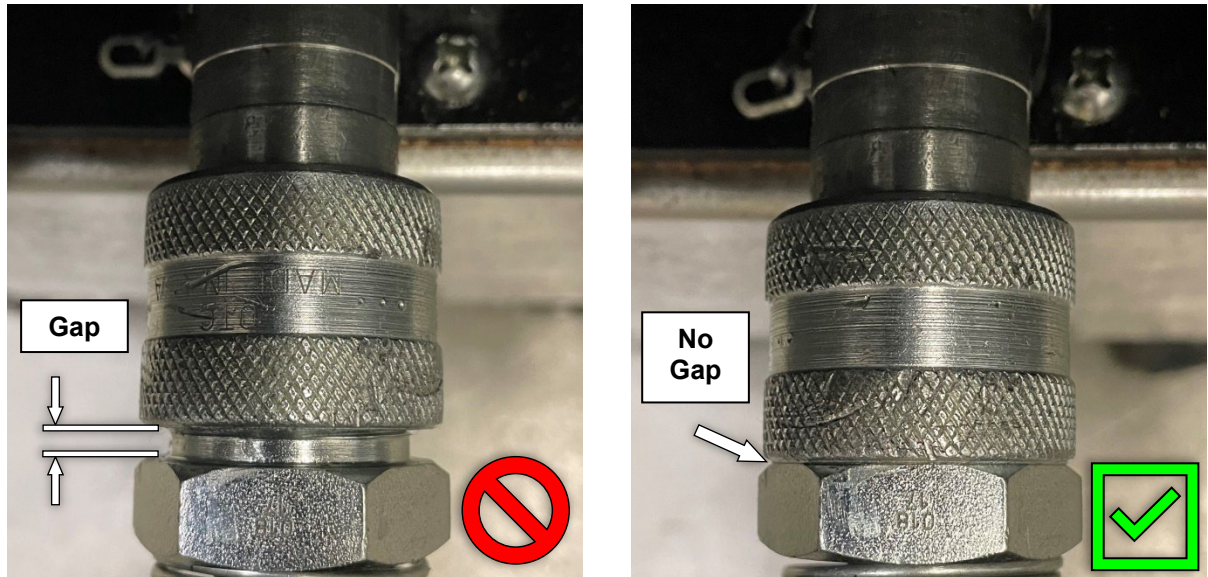

Figure 3.1-2
7. ⚠️ Before operating the pump, ensure all hose couplings are tightened securely by hand. Do not overtighten the connections. Couplings need only be tightened securely and leak-free. See Figure 3.1-2.
5. Remove protective caps from the hydraulic fittings and thread the hydraulic hose fitting from the puller unit (male) onto the hydraulic fitting of the FTI PowerPak (female). Wipe fittings clean prior to connecting. Make sure to thread couplers completely together, with no gap visible. See Figure 3.1-2 below.